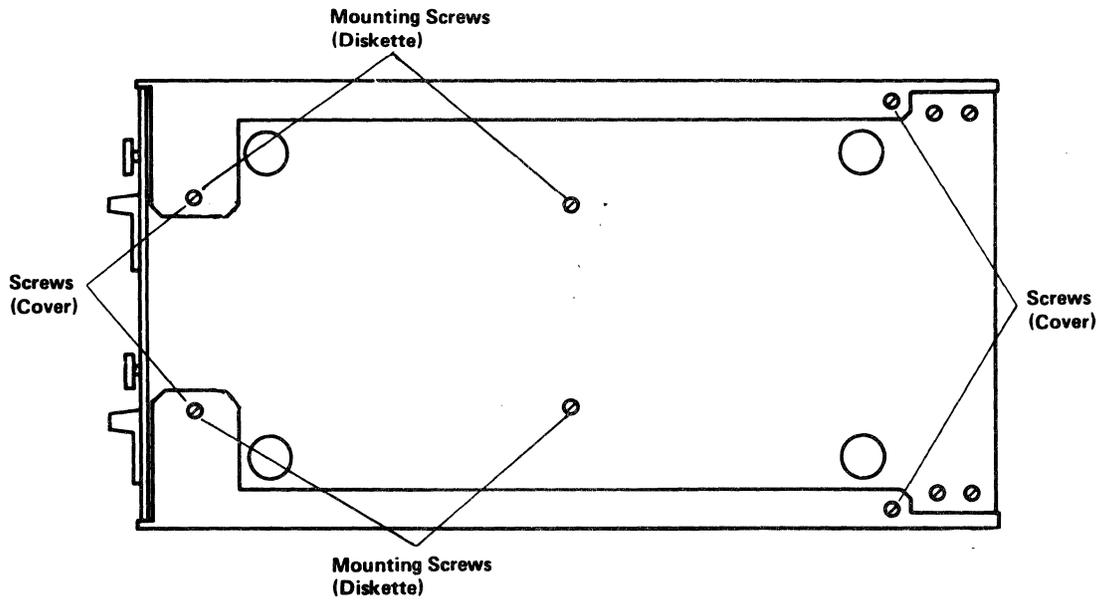

Figure 4-37. Location of Screws (Cover and Diskette).
6. Carefully lay the unit on its side again. If removing the bottom drive temporarily install a screw in the top drive as shown in (See Figure 4-37) to keep that drive from dropping down. If removing the top drive locate and remove the remaining screw for that unit (See Figure 4-37).
2. While supporting the drive unit place the assembly on its side and replace the screw that holds the new unit in place. Also remove the screw that was installed to hold the unit not being removed (See Figure 4-37).